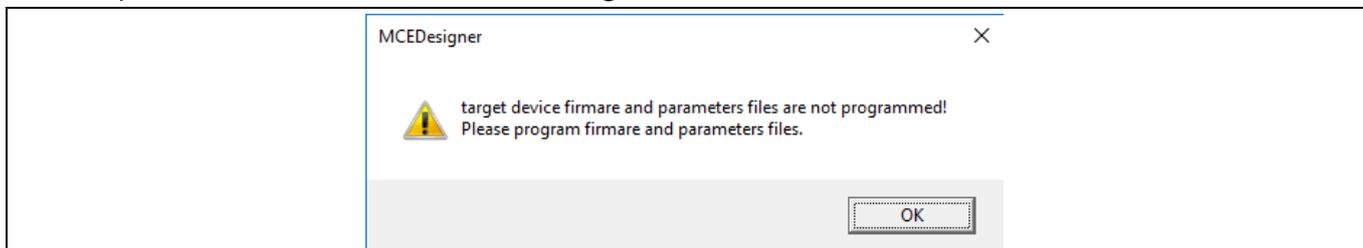

Figure 6 MCEDesigner warning message
- 4. (In case of a blank IC) If the firmware has been erased from the IMD111T-6F040, the following warning message will pop up “Target device firmware and parameters file are not programmed! Please program firmware and parameters file” as Figure 6. Then you can program the firmware and parameters as described in Step 5. If it is not a blank IC, no such message will be indicated.